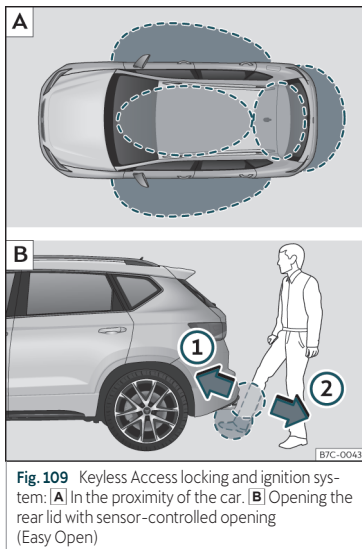
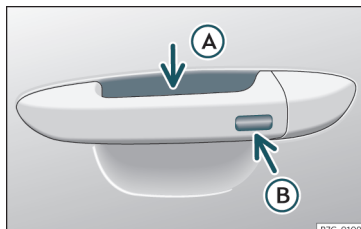

Fig. 109 Keyless Access locking and ignition system: **A** In the proximity of the car. **B** Opening the rear lid with sensor-controlled opening (Easy Open)
Fig. 110 Keyless Access locking and ignition system
Keyless Access is a key-free locking and ignition system to unlock and lock the vehicle without actively using its key. To do this, all that is required is to have a valid vehicle key in the detection area where you are attempting to access the vehicle >>> **Fig. 109 A** and to touch one of the sensor surfaces on the door handles >>> **Fig. 110** or operate the *soft-touch/handle* on the rear lid >>> **page 124** >>> **!**
If a valid key is in the proximity of the car, >>> **Fig. 109 A** the Keyless Access locking and starting system gives the key entry as soon as one of the sensor surfaces on the door handles is touched or the *softtouch/handle* on the rear lid is operated. The following features are then available without having to use the vehicle key actively:
- Grip one of the front door handles. In doing this, the sensor surface >>> Fig. 110 A (arrow) on the handle is touched and the vehicle unlocks.
When the vehicle is locked, the rear lid automatically unlocks on opening if there is a valid vehicle key in the proximity >>> Fig. 109 A.
If there is a valid vehicle key in the proximity >>> Fig. 109 A of the rear lid, it is possible to unlock and open or close it moving one foot in the area of the sensors >>> Fig. 109 B located under the rear bumper.
- With a brisk movement, bring your foot and lower leg as close as you can to the bumper. The lower part of the leg needs to be close to the upper sensor area and your foot to the lower sensor area >>> Fig. 109 B 1.
- Quickly remove your foot and lower leg from the sensor areas >>> Fig. 109 B 2. The rear lid will be automatically opened.
- Push the central locking button  on the remote control and touch the locking sensor surface of the driver door handle >>> **Fig. 110**  within the following 5 seconds. Do not grasp the door handle; otherwise the vehicle will not unlock. Deactivation is also possible if the vehicle is locked through the driver's door lock.